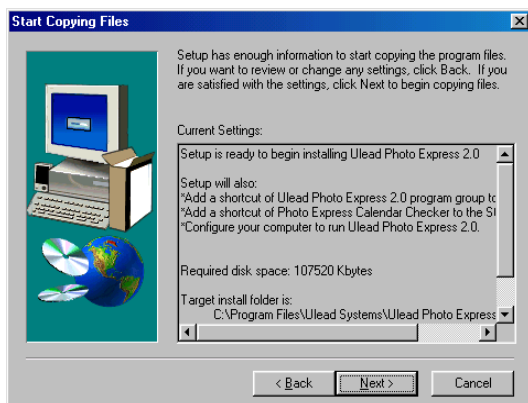
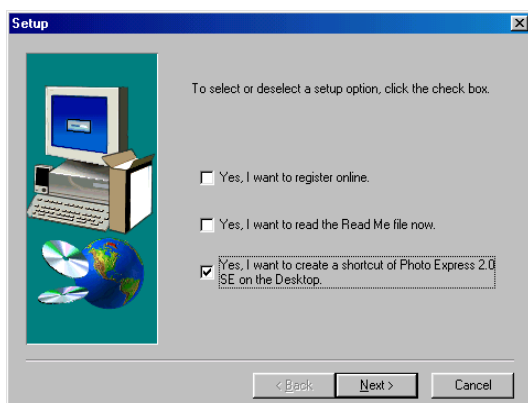

Figure 16: Installing PhotoExpress 2.0
Figure 17: Installing PhotoExpress 2.0
- Click on 'Next' (Figure 16). PhotoExpress will now be installed. Figure 17 appears when the installation is completed.
- Click on 'Next' to continue (Figure 17).